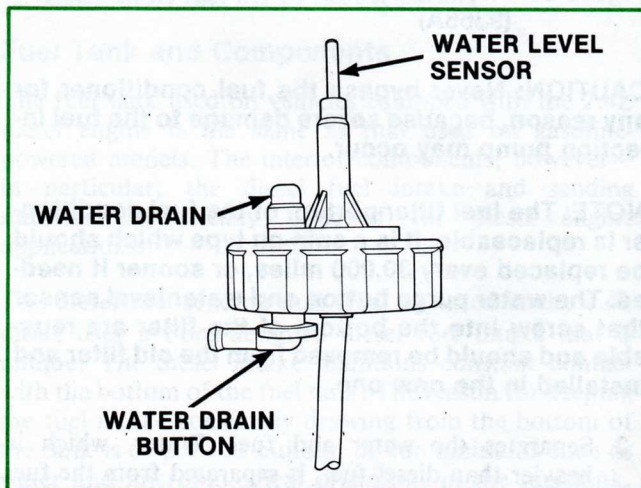

Figure 37. Water Level Sensor
The excessive water in the fuel conditioner is sensed by the water-in-fuel detector, (Fig. 37) which provides a ground for the warning lamp circuit. When the upper limit is reached, the warning light comes on. This system operates on the principle that diesel fuel is a much better insulator than water.
5. Purges water from the fuel system. Water that is captured by the water/fuel separator is removed from the fuel conditioner by loosening the vent screw on top of the fuel conditioner and pressing the button, shown in Figure 37, on the bottom of the replaceable filter element and draining the water into a container until clear diesel fuel comes out.